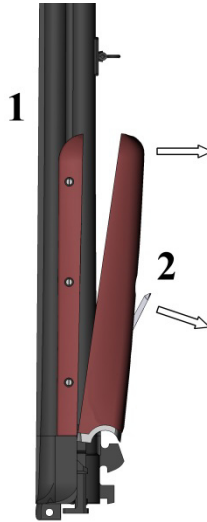

Figure 2
2.2.1 Removing forearm from barrel (Figure 2)